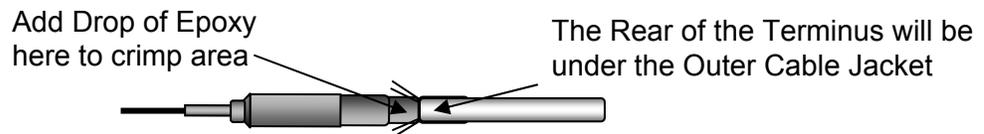

Figure 7-34 – Adding a Drop of Epoxy to Rear of Terminus
Step 17 - Add a drop of epoxy to the crimp area, located at the rear of the terminus. See Figure 7-34.